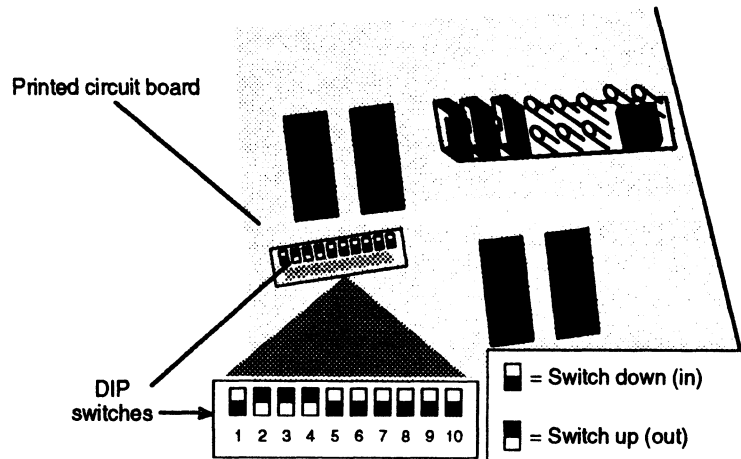

Figure 5–4 DIP Switches on Printed-Circuit Boards
3. Use a nonmagnetic pointed device to carefully push the proper switch(es) to the in or out position, as required. Figure 5–4 shows a typical row of DIP switches.
3. Using a coin or screwdriver, loosen each fastener by turning it one-quarter turn counterclockwise as shown in Figure 5–5.